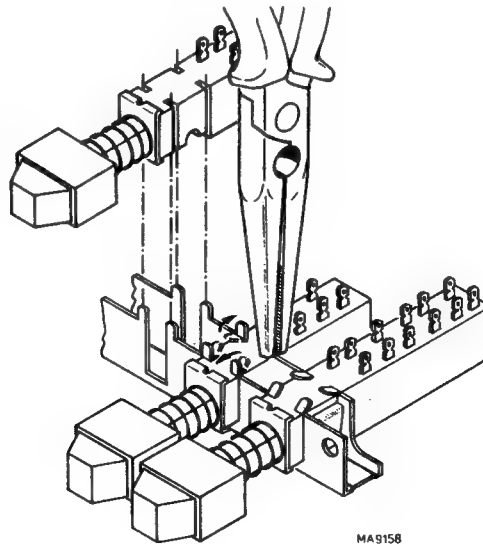

Fig. 3.15. Replacing a switch-segment of a push-button set
To remove a push-button switch, the hexagon screws that secure it to the front panel must be removed. To replace one switch-section of a push-button set, refer to Fig. 3.15.
- Straighten the 4 retaining lugs of the relevant switch as shown in Fig. 3.15.